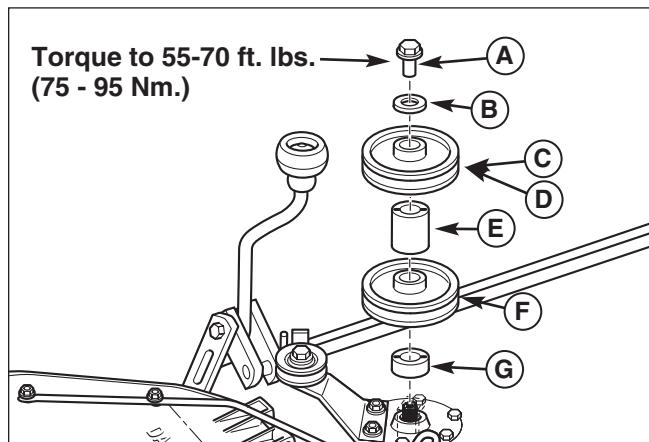

Figure 12. Install Turbo Drive Pulley
3. Install new spacer (E, Figure 12), turbo drive pulley (C, 5" for 38" mowers or D, 4-5/16" for 44" & 50" mowers), and spring washer (B) align the notches in the pulleys with the ridges in the spacers. Torque the sleeve nut to 55-70 ft. lbs.